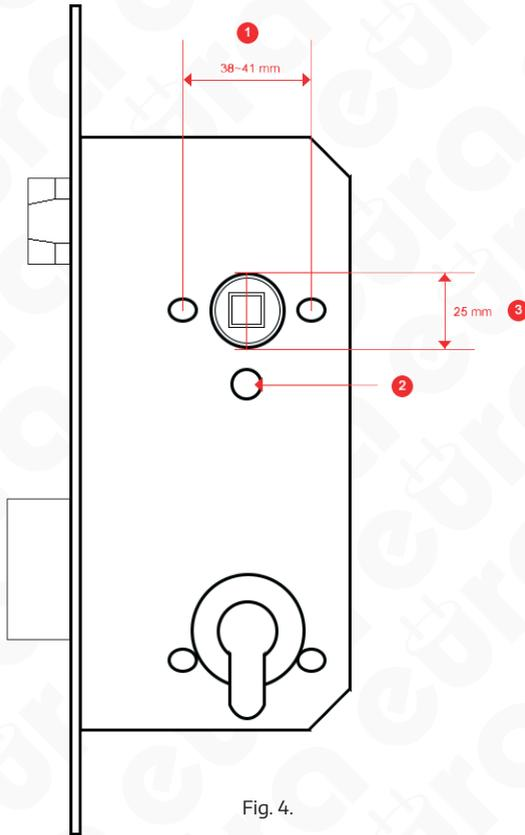

Fig. 4.
- a. suitable lock (Fig. 4 and installation openings for screws/ bushings with 38~41 mm spacing (Fig. 4, Item 1)
- b. cut out below the lock arbor (Fig. 4, Item 2) for the wire connecting electronics of the door handle set with the power supply.
- c. opening for the arbor socket with 25 mm diameter (Fig. 4, Item 3).
If the door possesses no installation openings, the lock shall be removed from the door, make sure that it complies with the standard provided in Fig. 4, and then four openings shall be drilled:
- a. two with diameter approx. 12 mm intended for connection of the internal and external part of the door handle set (Fig. 4, Item 1).
- b. one with 12 mm diameter to conduct the wire connecting the electronics with the power supply (Fig. 4, Item 2)
- c. one with 25 mm diameter intended for masking the arbor socket with locking pin (Fig. 4, Item 3).
2. In the case of using ELB-06B9 washers (bezels) performance of the 25 mm opening can be omitted (Fig. 4, Item 3).